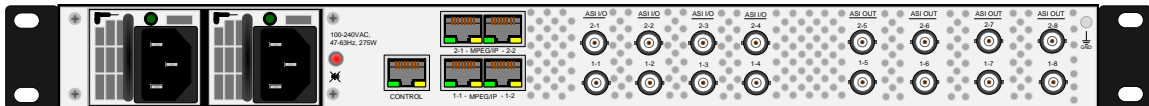

Figure 3: Dual DMG platform with ASI output option
The chassis shown in Figure 3 has dual platforms with (8) additional ASI outputs. Platform 1 is on the bottom and Platform 2 is on top. Each platform is independent from one another for stream routing.